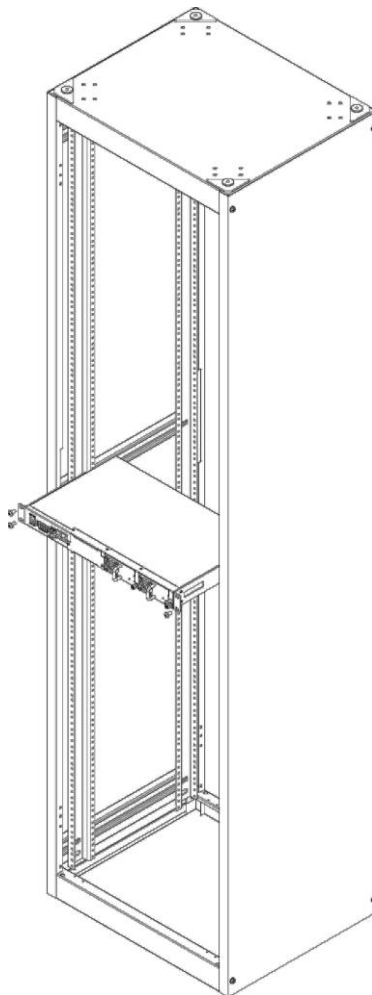

Figure 8 — Device rack mounting
3. Align the holes of the brackets with the holes on the front vertical rails of the rack (Figure 8). Use the holes of the same level on both sides of the guides to ensure horizontal installation of the device. Use a screwdriver to attach the device to the rack with screws.